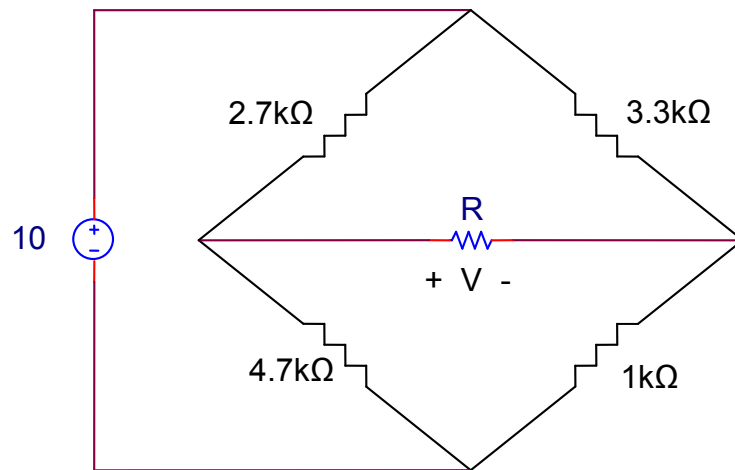

Figure 5.5
2. Using the maximum power transfer theorem, find the value of R which will result in the maximum power being delivered to R (see Figure 5.5).
6. Construct the circuit in Figure 5.5. Using values of R in the range from 100Ω to $10k\Omega$, measure V and calculate P , the power delivered to R . Plot P vs. R . Be sure to take several readings for R values in the neighborhood of the value calculated in part 2 of the pre-lab.
13. Using the value of R calculated in step 2 of the pre-lab, use SPICE to calculate V in Figure 5.5. Compare this value to your measurement.